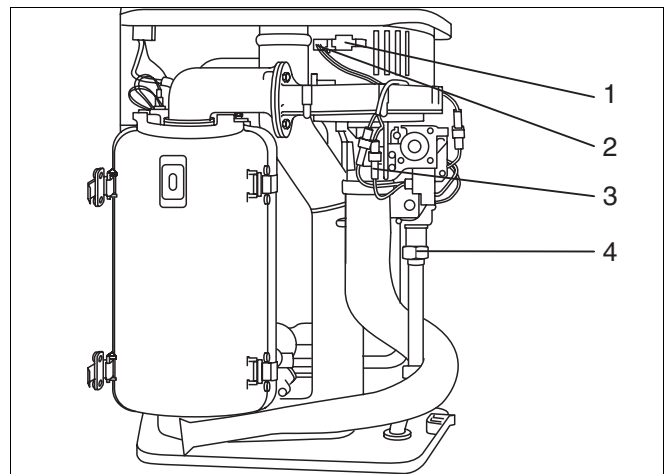

Fig. 42 Replacing the fan on the 600 Series:
- Disconnect the fan, using the plug and socket from the power supply (fig. 42, item 1), loosen the UBA control line at the fan (fig. 42, item 2) and the gas burner fitting (fig. 42, item 3).
- Loosen the union nut (fig. 42, item 4) on the gas burner fitting.